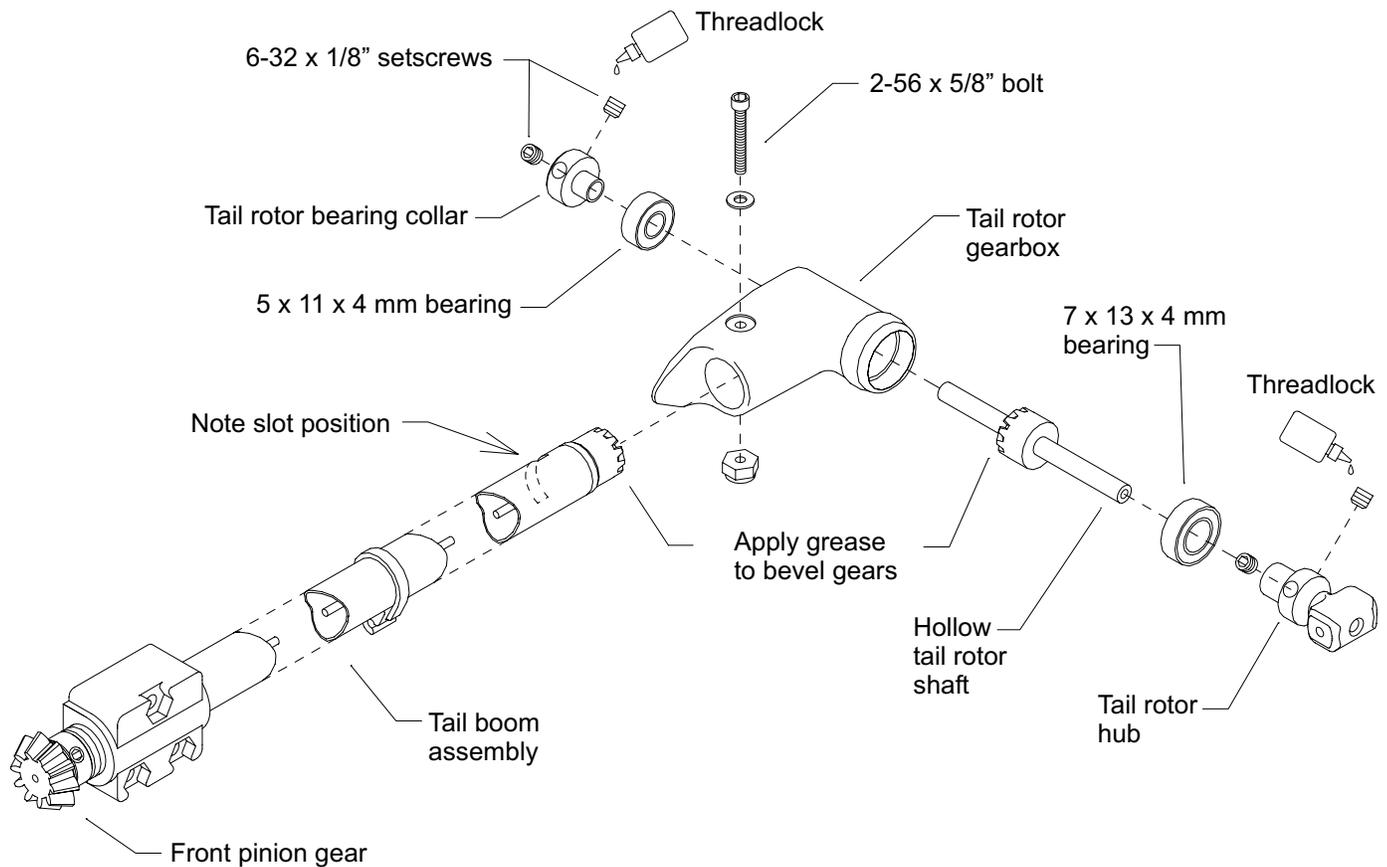

Figure 10-2.
- ❑ 1. In the next steps you will wrap your tail boom with white trim sheet to give it color. Note that the tail boom bracket and tail rotor gearbox fit at each end of the tail boom as shown in Fig. 10-2). Cut two strips of white trim sheet 6.5" x 1-5/8" (165mm x 41mm). Wrap one sheet around the front half of the tail boom leaving 1-3/16" (30mm) of the front end exposed to fit inside the tail boom bracket (note that the front end of the boom is the end without the slot). Wrap the other sheet around the rear half of the tail boom leaving 5/8" (16mm) exposed to fit inside the tail rotor gearbox. As you roll the trim sheets around the boom, the seam should overlap about .25" (6mm) to seal out oil.
- ❑ 8. As shown in Fig. 10-2, slide the tail rotor hub into the 7x13x4mm bearing and over the end of the tail rotor shaft until the end of the hub rests against the plastic bevel gear. Press the hub and gear together while securing the hub to the shaft with 6-32 x 1/8" setscrews and threadlock. Make sure no threadlock gets on the tail rotor shaft inside the tail rotor hub. This will make disassembly difficult later.